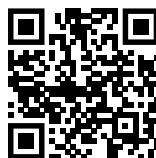

Fig. 122
- Open Liebherr SmartMonitoring Dashboard. (see Fig. 122)